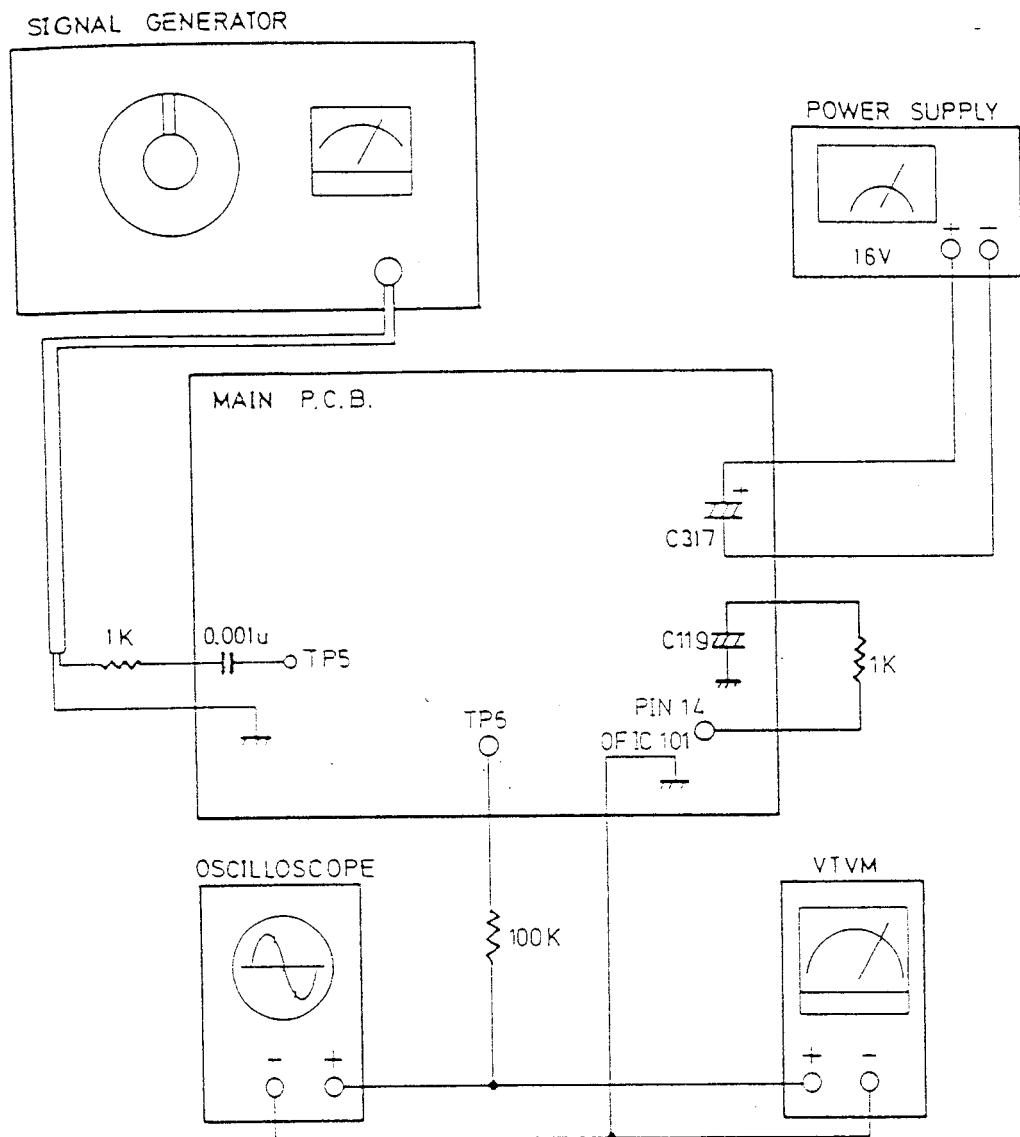

Fig.11
- (1) Connect the S.G. output to **TP5**.
- (2) Connect the oscilloscope input in series with a 100 Kohm resistor to **TP6**.
- (3) Connect a 1 Kohm resistor across **IC101 Pin 14** and **B+12V**.
- (4) Adjust **L108** for symmetrical waveform and the 5.5MHz marker point rest on the DC line. The 5.5MHz marker and the corresponding  $\pm 100\text{KHz}$  marker points should be a straight line after adjustment, see Fig. 11 as shown.